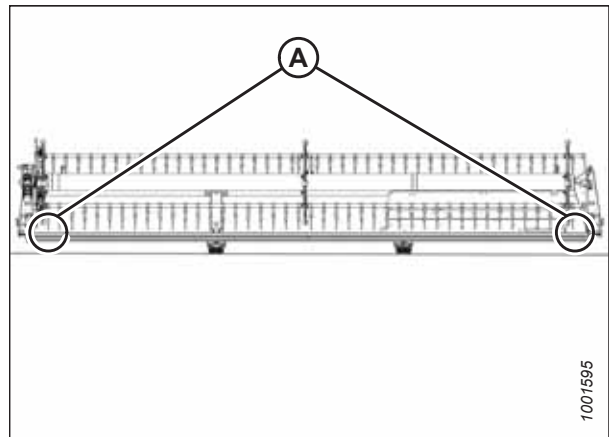

Figure 4.280: FlexDraper® Measurement Locations – Single Reel
- Single-reel headers: Figure 4.280, page 438